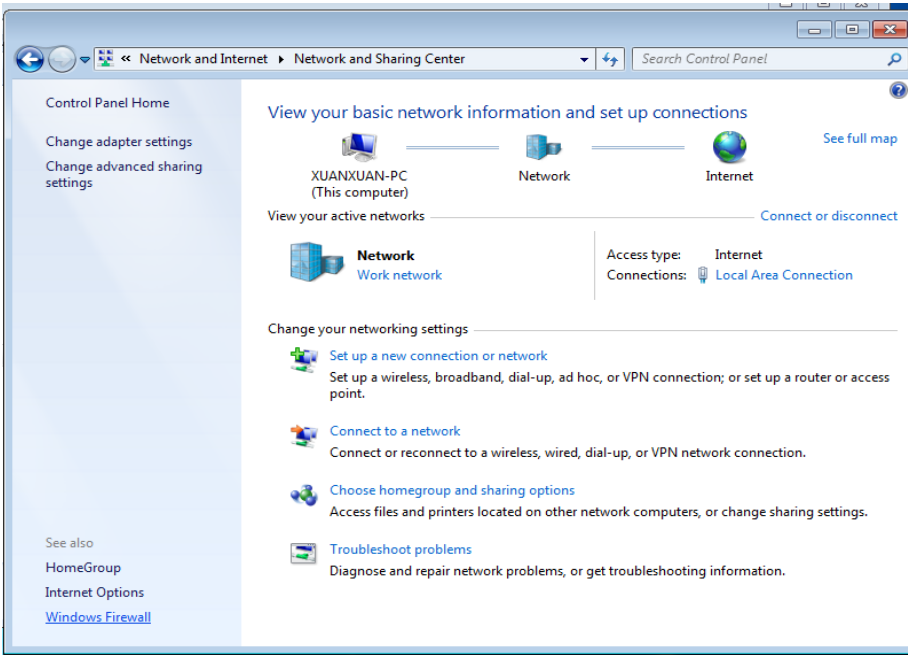

Fig.1.16 Network and Sharing Center
- (3) Click “Windows Firewall” (see Fig.1.16).